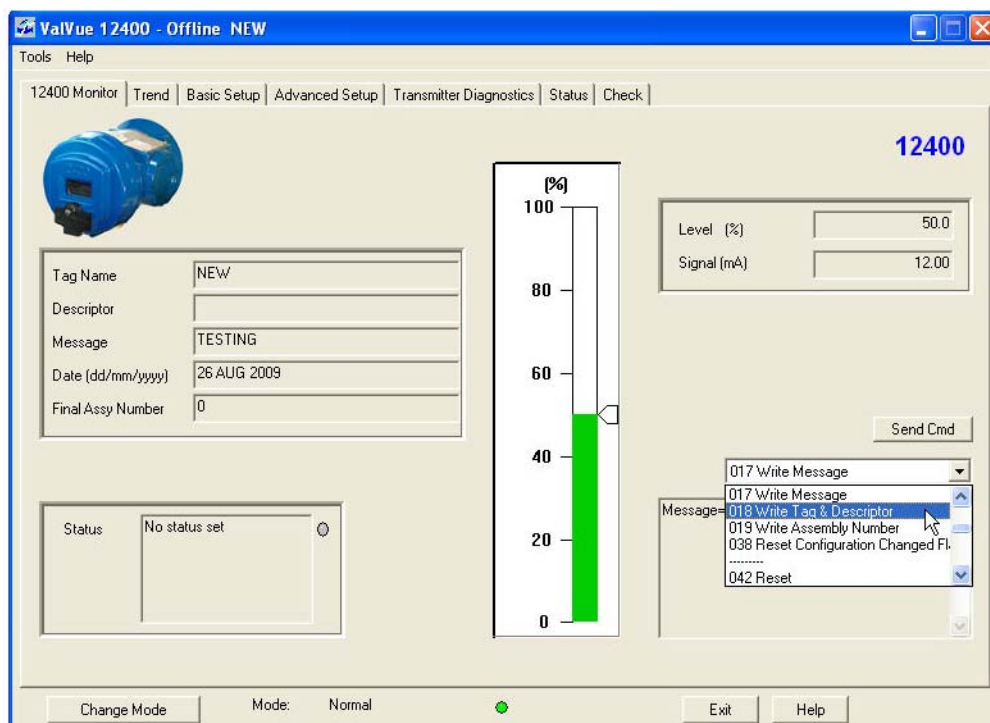

Figure 113 Selecting Write Tag & Descriptor Command
1. Select **Write Tag & Descriptor** from the drop down list of commands (Figure 113).